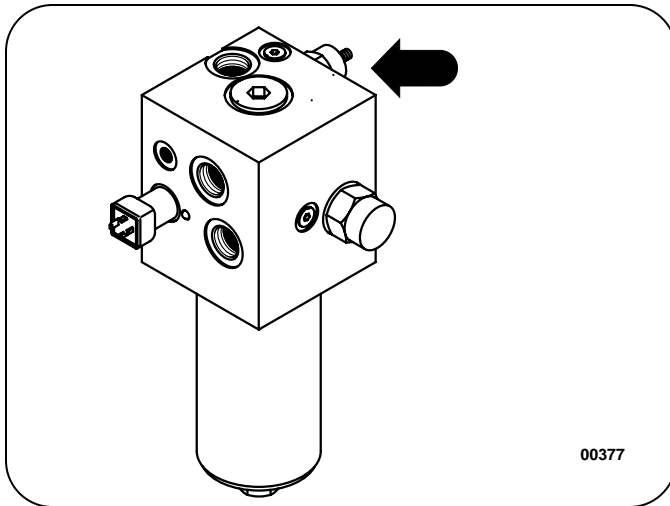

Figure 3: Wheel Drive Charge Pressure Adjustment
9. Use the 9/16" wrench and 5/32" allen wrench to loosen the jam nut on the charge pressure relief adjustment setscrew. See Figure 3.